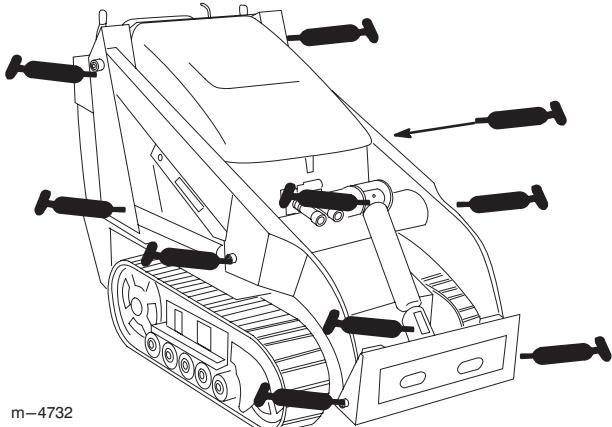

Figure 43
3. Connect a grease gun to each fitting (Fig 43 and 44).